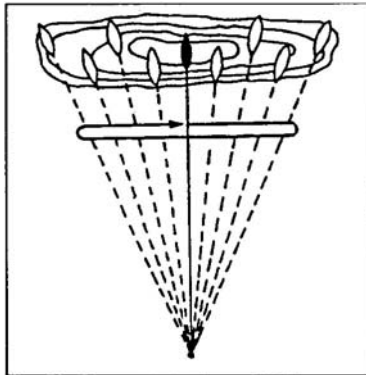

Figure 10. Engagement of area target.
- b. Area target. Initially, aim at the midpoint of the target area. Traverse and search to either flank, then back to the opposite flank (Figure 10).